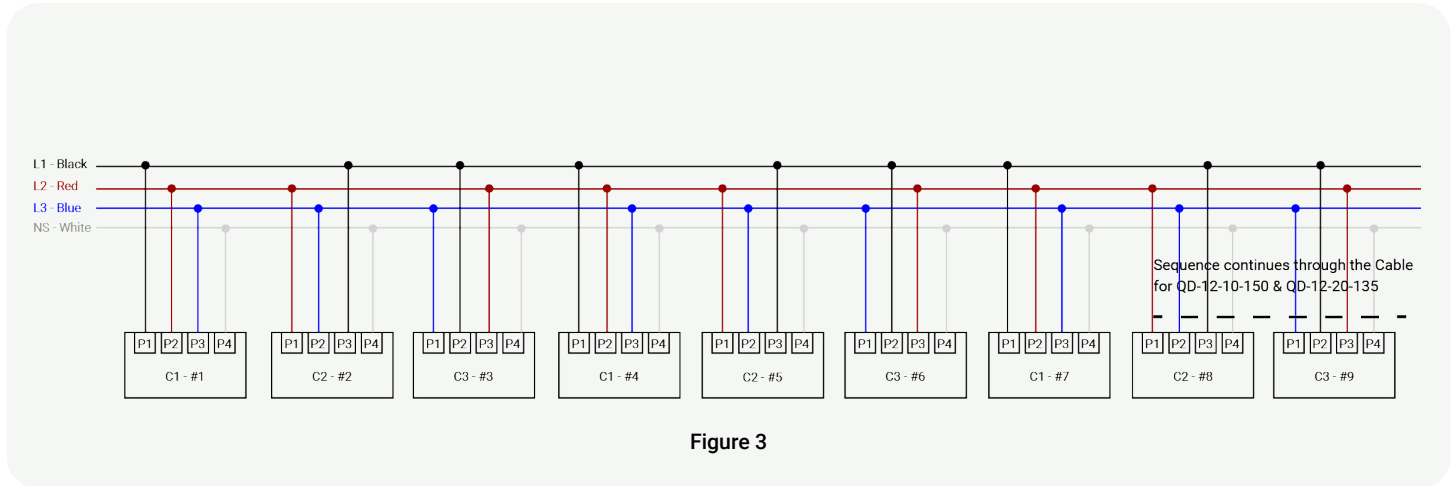

Figure 3
**NOTE:** IQD Cable SKUS QD-12-10-150 and QD-12-10-135 does not include separate center tapping connector within the cable (Refer Figure 3). Hence it is recommended to use off-the shelf junction box for center feeding the three phase AC supply.